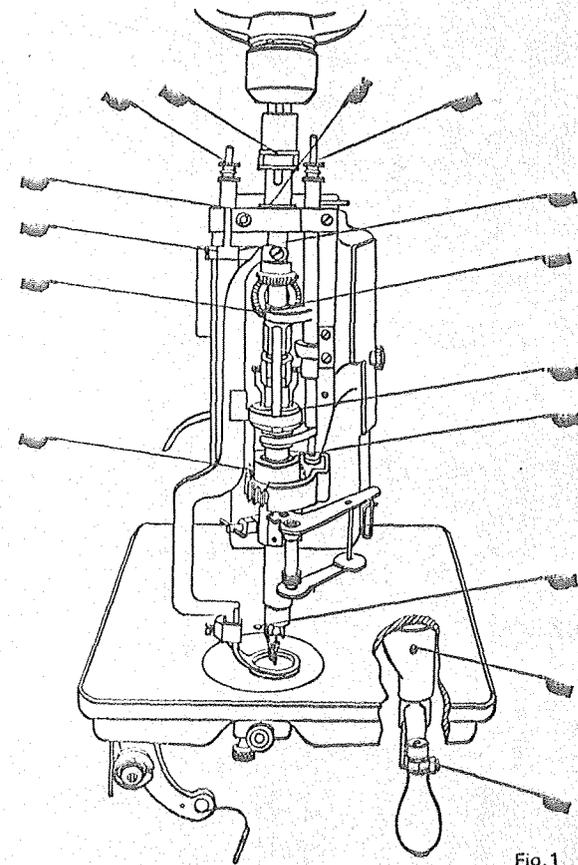

Fig. 1
4. TO OIL THE MACHINE (Figs. 1, 2, 11 & 12)
Oil should be applied to the places designated by unlettered arrows in Figs. 1, 2, 11 and 12.